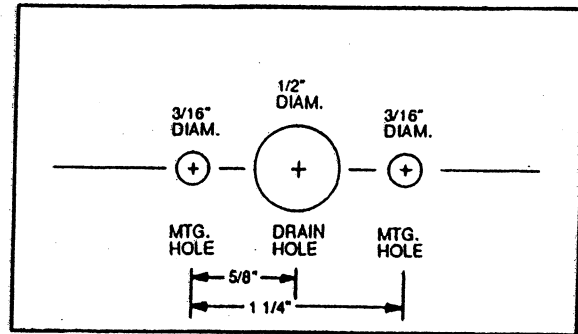

Fig. 6 — Drain and Mounting Hole Dimensions
2. Using Fig. 6 as a guide, mark location of drain hole and mounting hole center lines in wall sleeve.